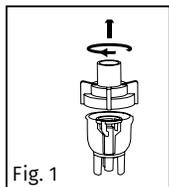

Fig. 1
3. Gently twist the top part of the nebulizer bottle counter-clockwise to disassemble the nebulizer bottle (Figure 1).